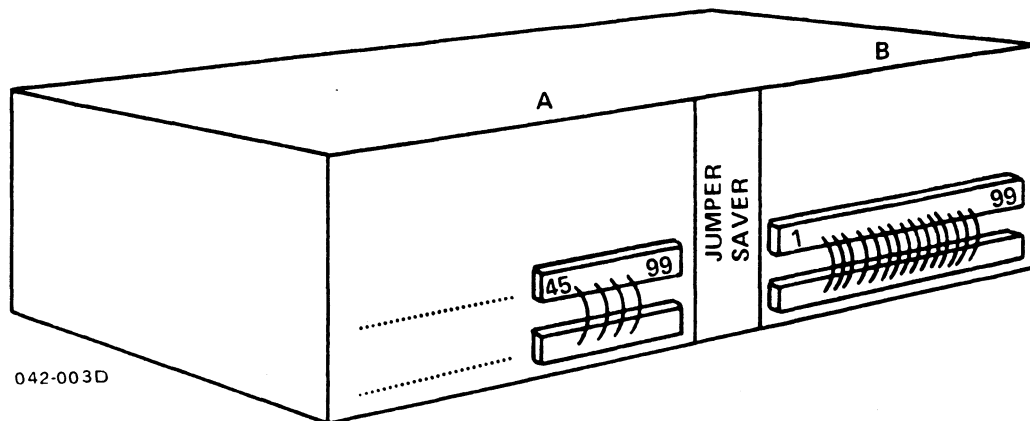

Figure 6-10. Z Cable Attachment from 310 to 301 Board
- Attach the Z cables, A and B (Model 324), to the chassis backplane. Place the top connector of the A cable on the backplane where the 310 multiplexer is located and the bottom connector of the A cable on the backplane where the 301 expansion board is located (see Figure 6-10).